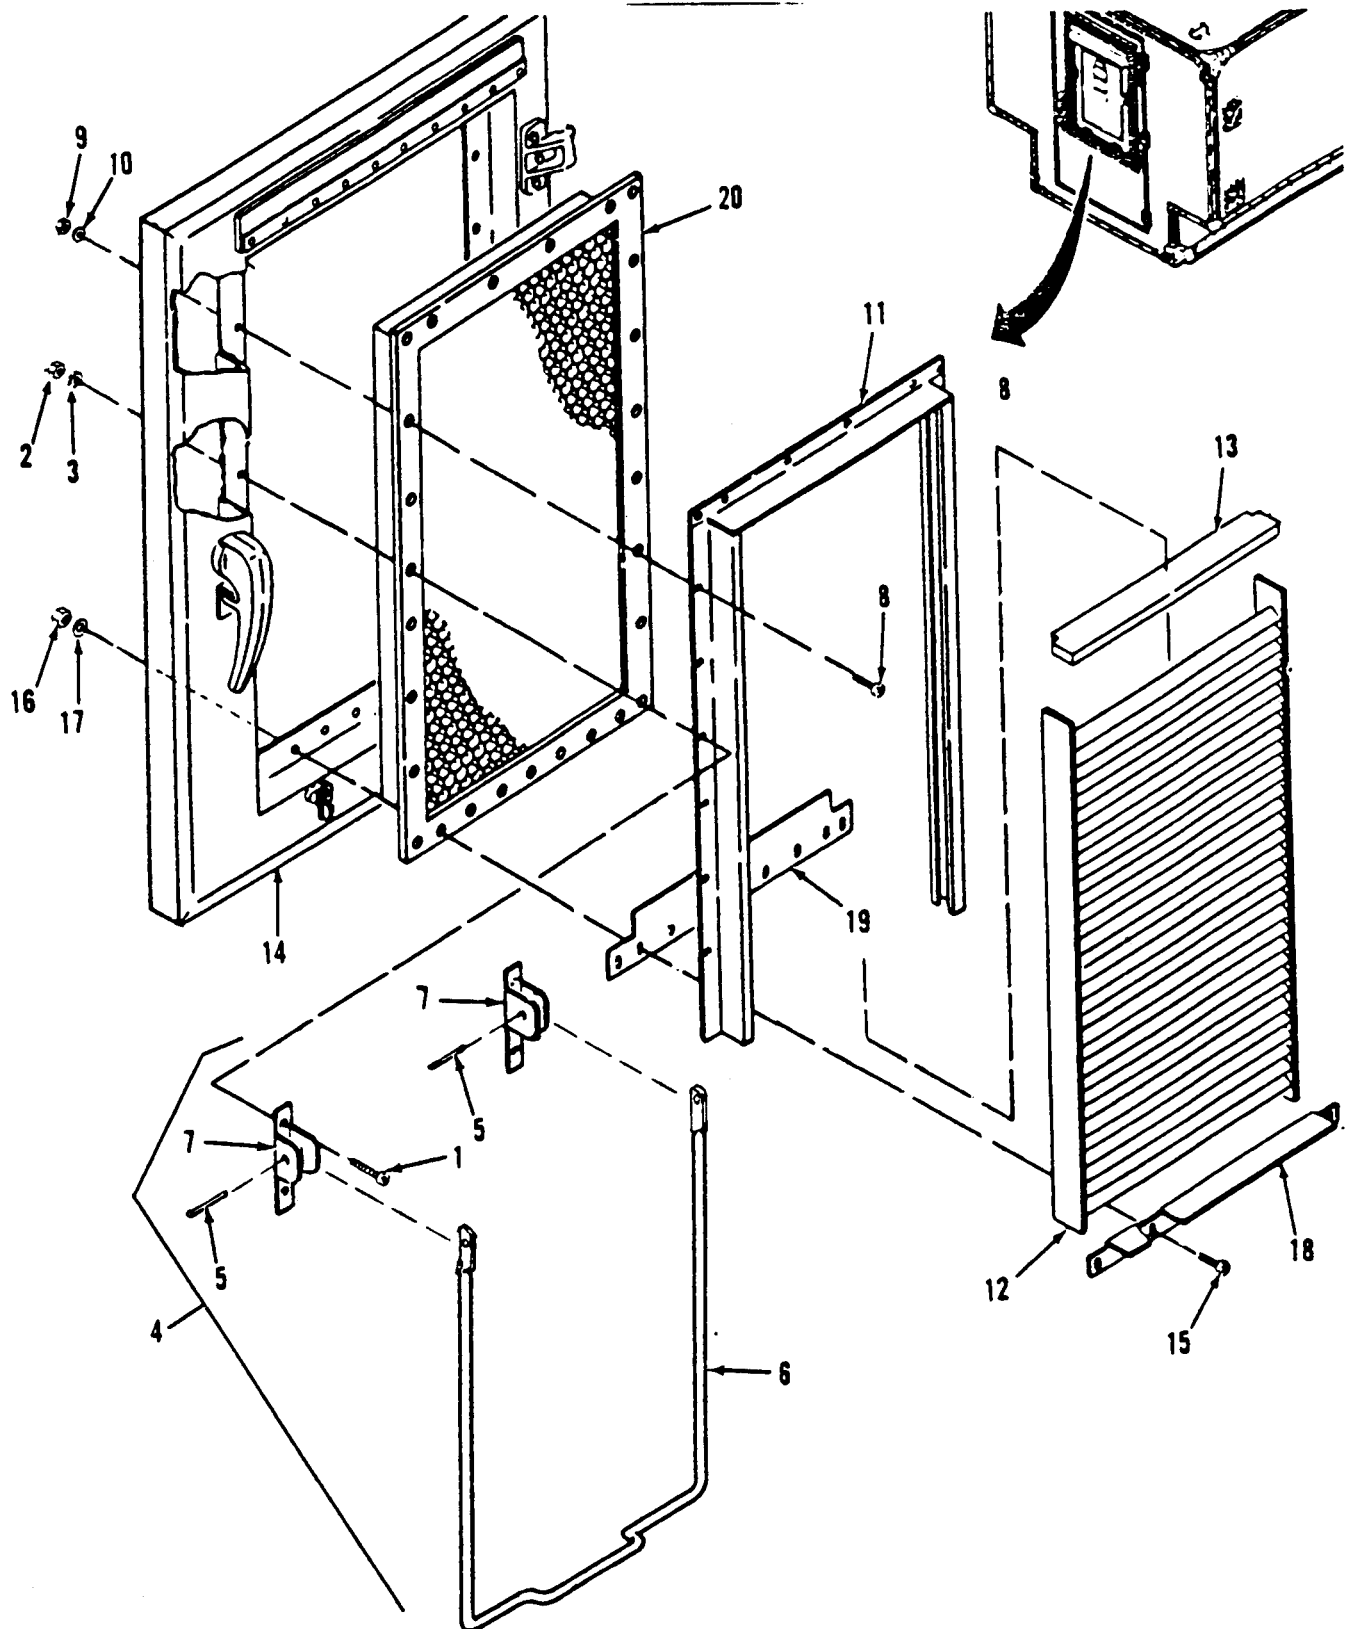

Figure 3-26. Louver Assembly, Holder Assembly, and RFI/EMI Filter Replacement.
*a . Inspect.* (Figure 3-26)
- (1) Inspect holder assembly (4) for secure mounting or damaged parts.
- (2) Inspect louver assembly (12) for external damage.
- (3) Inspect frame (18) and frame assembly (11) for secure mounting.
*b . Remove.* (Figure 3-26)
- (1) Prop louver cover assembly open.
- (2) Remove and retain four phillips head screws (1), nuts (2), and lock washers (3), and remove holder assembly (4) from frame assembly (11).
- (3) Punch out groove pin (5) to remove holder (6) from bracket assemblies (7).
- (4) Remove and retain 31 phillips head screws (8), nuts (9), and lock washers (10) attaching frame assembly (11) to inner door panel. While supporting louver assembly (12) on bottom with one hand, remove gasket (13) and frame assembly (11) from inner door assembly (14).
- (5) Slide louver assembly (12) and gasket (13) out of frame assembly (11).
- (6) Remove and retain seven phillips head screws (15), nuts (16), and lock washers (17) attaching frame (18) to inner door assembly (14). Remove frame (18), shield (19), and RFI/EMI filter (20).
*d. Install.* (Figure 3-26)
- (1) Apply sealer to both ends of top flange of shield (19).
- (2) Position RFI/EMI filter (20), shield (19), and frame (18) in place into inner door assembly (14), and secure with seven phillips head screws (15), nuts (16), and lock washers (17).
- (3) Apply silicone sealer on mounting surface of gasket (13) and insert gasket (13) and louver assembly (12) into frame assembly (11).
- (4) Position frame assembly (11) in place against RFI/EMI filter (20) and secure with 31 phillips head screws (8), nuts (9), and lock washers (10).
- (5) Position each end of holder (6) into bracket assemblies (7) and secure with groove pins (5).
- (6) Position holder assembly (4) in place over frame assembly (11) and secure with four phillips head screws (1), nuts (2), and lock washers (3).
- (7) Apply a continuous bead of sealer around mounting edges of frame (18) and frame assembly (11).